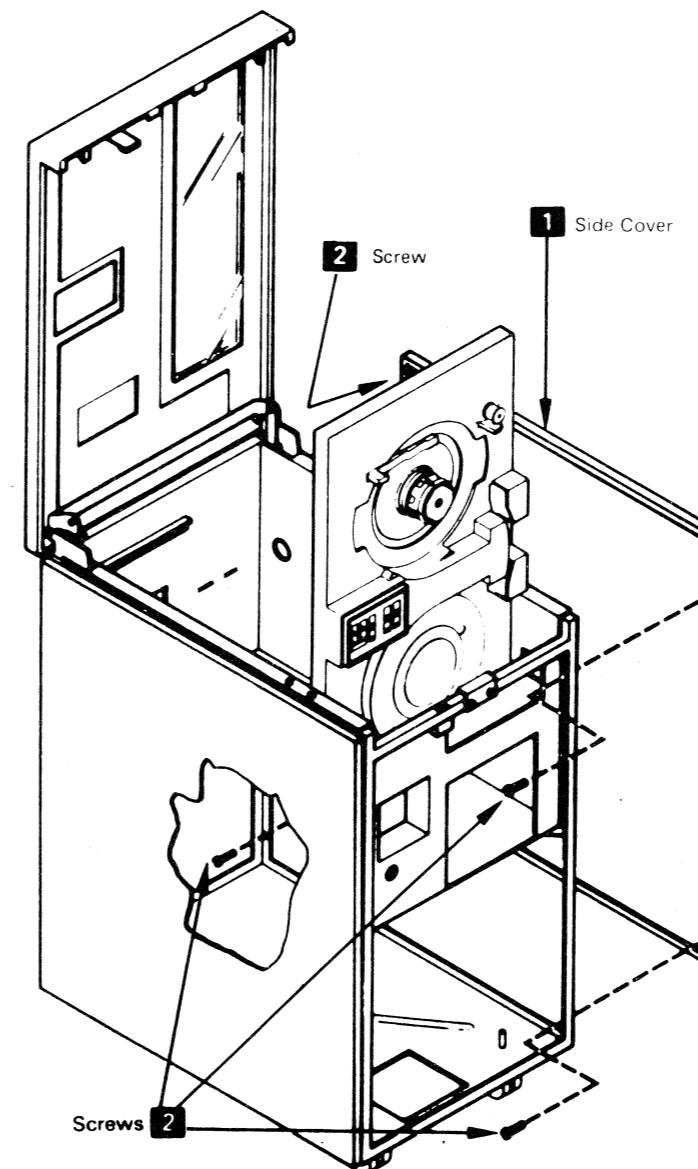

Figure 2. Side Cover Removal
3. Remove the side covers **1** from the tape unit by removing the four screws **2** as shown in Figure 2.